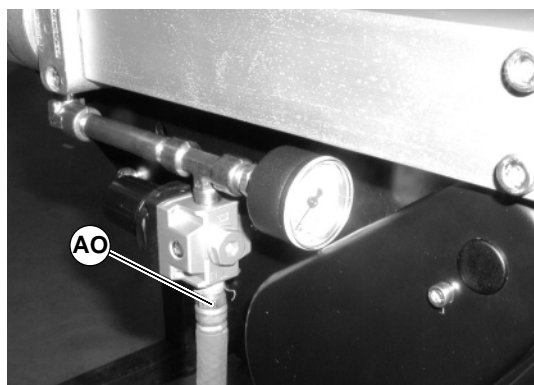

Figure 59
1. Remove air supply and remove hose (AO of Figure 59) from center drive.